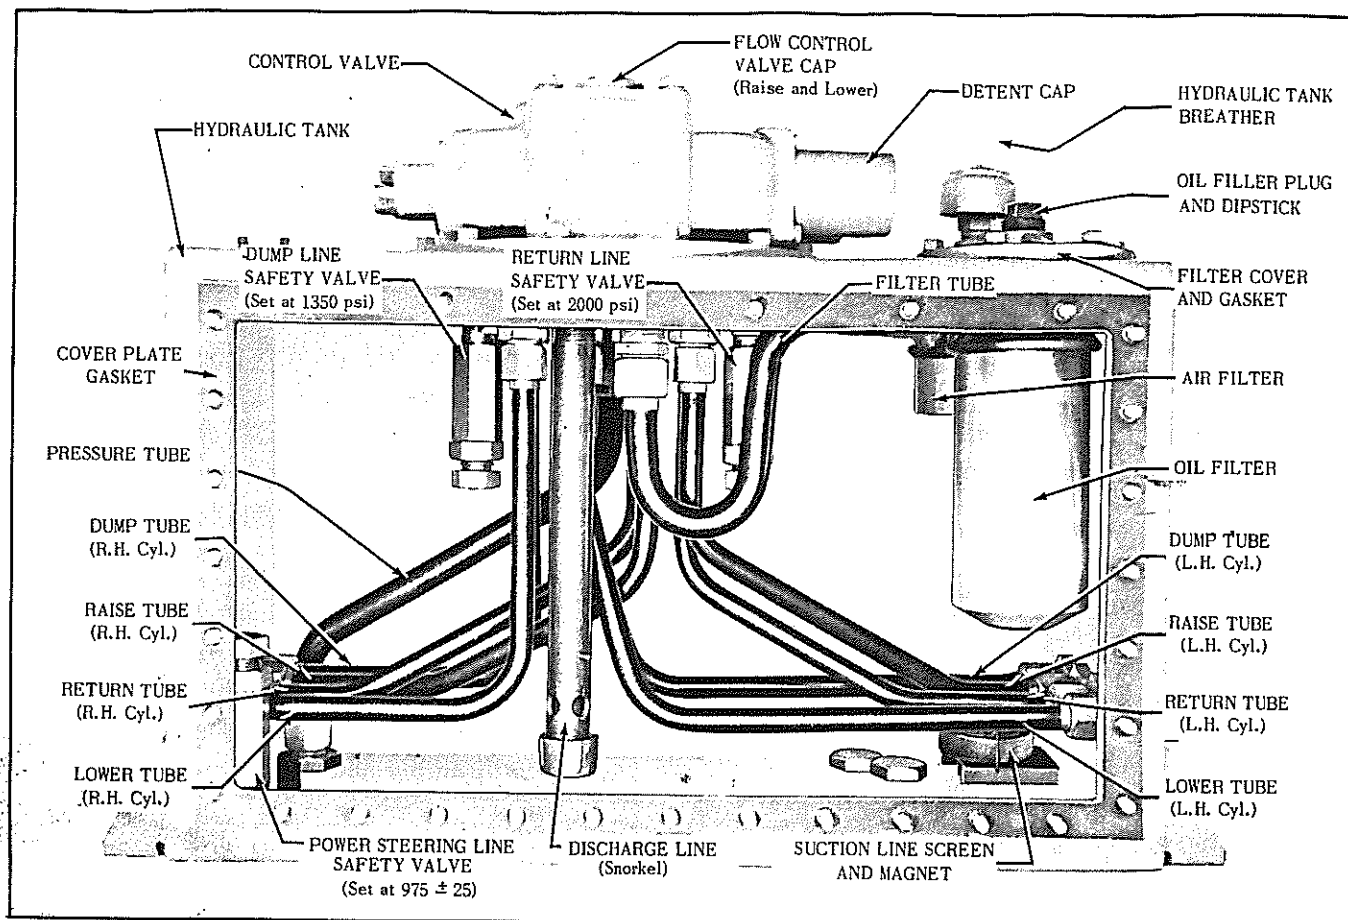

FIG. 21 - HYDRAULIC TANK
The dump line safety valve and the return line safety valve, located inside of the hydraulic tank as shown in Fig. 21, are properly adjusted at the factory and require no further adjustment in the field.
The oil filter, located inside of the hydraulic tank as shown in Fig. 21, has a micronic element which should be replaced after every 100 hours of operation, or more often if conditions warrant. When the oil is at operating temperature, all oil is 100% filtered. Refer to Fig. 21 and replace the oil filter element as follows:
The tank breather (Fig. 21) should be serviced after every 10 hours of operation, or more often if conditions warrant. The breather element should be replaced after every 100 hours of
The element of the air filter, located inside the hydraulic tank as shown in Fig. 21, should be replaced after every 100 hours of operation, or more often when operating in extremely dusty conditions. Replace the filter element as follows:
It is important that the suction line screen and magnet (Fig. 21) be cleaned daily during the first week of operation or until the amount of foreign material collected daily has practically disappeared. Thereafter, the screen and magnet should be cleaned after every 100 hours
2. Reaching down into the hydraulic tank, push down on the bail to loosen the suction line screen baffle cup (Fig. 21) and remove the baffle cup and the suction screen. Remove the magnet (ring) from the suction line.
An oil level dipstick, attached to the oil filler plug (Fig. 21), is provided in the left front corner on top of the hydraulic tank. The oil level should be checked after every 10 hours of operation by removing the dipstick and oil filler plug. **NOTE:** *Make certain the tractor is level before checking oil level. With the engine running at full throttle, raise the boom to radiator height. Actuate the bucket through its full travel several times to make certain the dump cylinders are full of oil, then fully retract the dump cylinders. Move the boom control lever to the "LOWER" position and lower the bucket to ground level, then return the control lever to its "NEUTRAL (HOLD)" position. Be sure the engine is running at full throttle when performing these operations. Stop the engine and check the oil level as follows:*